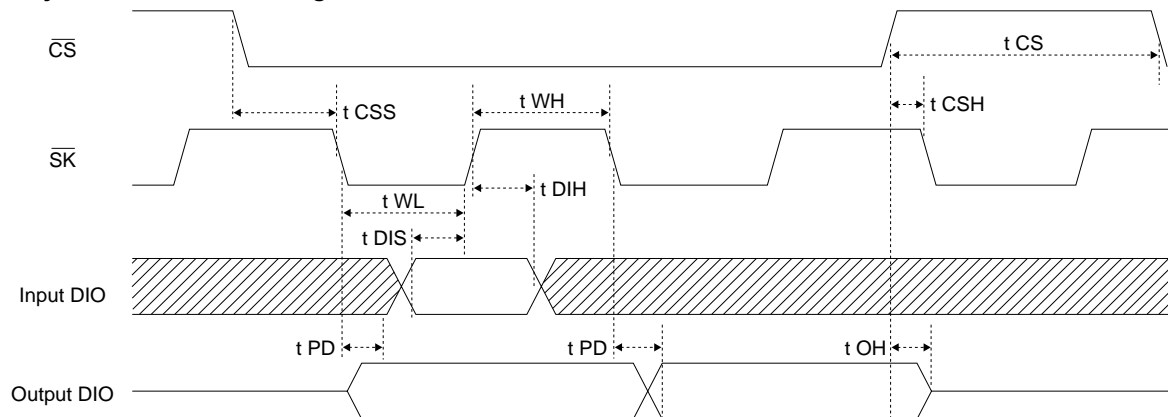

Fig.10 Synchronous data I/O timing
- 1) When the Wiper Counter Data Output (WCR) command is received, seven bits of the data at the current wiper position are output to D8, D9, D10, ..., D14, in sequential order. If a clock of longer than 24 clocks is input, indefinite data may be output. (For the DIO output, the data may change at the  $t_{PD0}$  and  $t_{PD1}$  time delays, in response to the internal circuit delay starting from the falling edge of the  $\overline{SK}$  signal. During the  $t_{PD0}$  and  $t_{PD1}$  time intervals, data should be loaded after the  $t_{PD}$  time has been assured, in case the previous data is indefinite. Refer to Fig.10, Synchronous data I/O timing.)